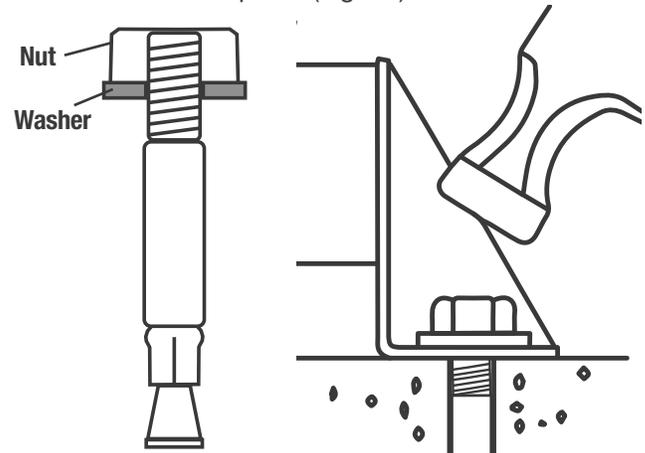

Figure 25: Floor Mount Anchor Installation
7. Hammer the anchors in until the washer is flush with the floor mount plate. (Fig. 25)